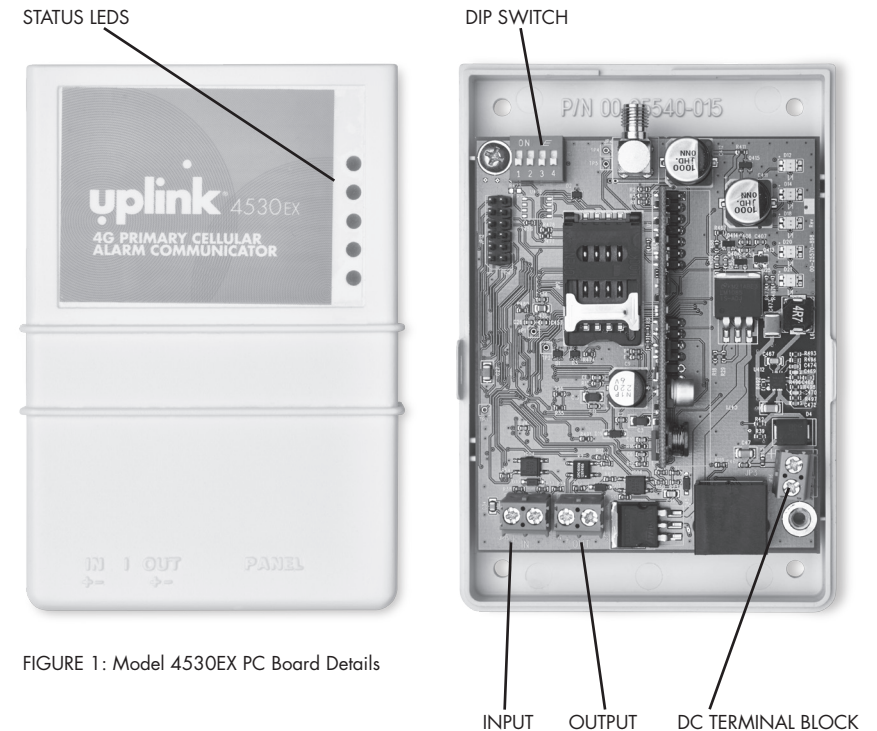

FIGURE 1: Model 4530EX PC Board Details
3. Go to the red, 4-position Dipswitch as shown in Figure 1 and set the dipswitch as appropriate for this installation. (See DIP Switch Settings, page 12.)
5. Position the bottom of the 4530EX enclosure where it will be installed. Use four (4) #6 screws and mount the unit using the four holes in the enclosure's plastic bottom.